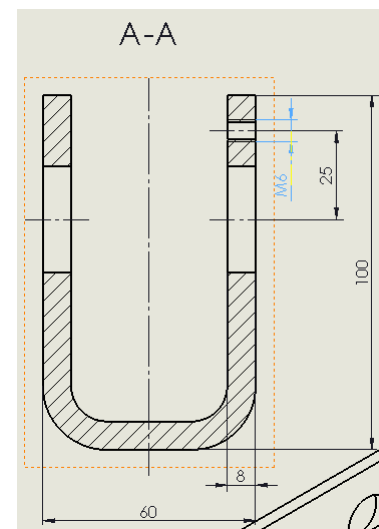

Fig3
- A number (2) is placed at the lower right corner of the sectional view. This is the number of the instances of the Linear Pattern which created the copied large holes. Delete the number!
- The dimension line of the M6 dimension is intersected by an extension line. Drag the dimension text to the opposite side of its extension lines (Fig3)!